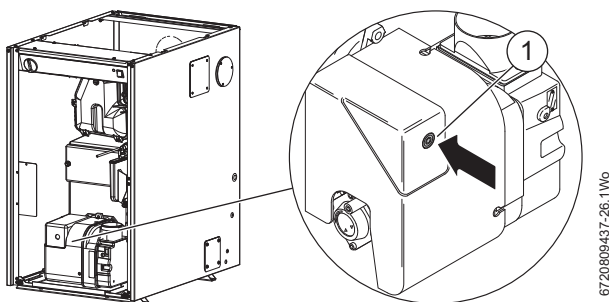

Fig. 47 Reset button
- ▶ Wait 2 minutes then press the lockout reset button [1] (see figure 47) to initiate another start sequence.